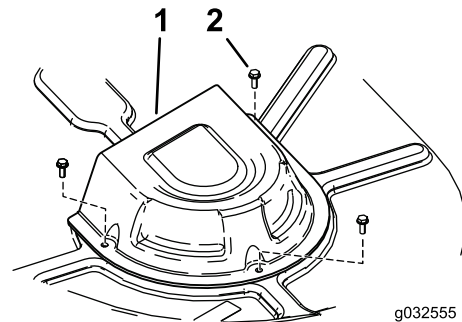

Figure 46
4. Remove the pulley covers (Figure 46).